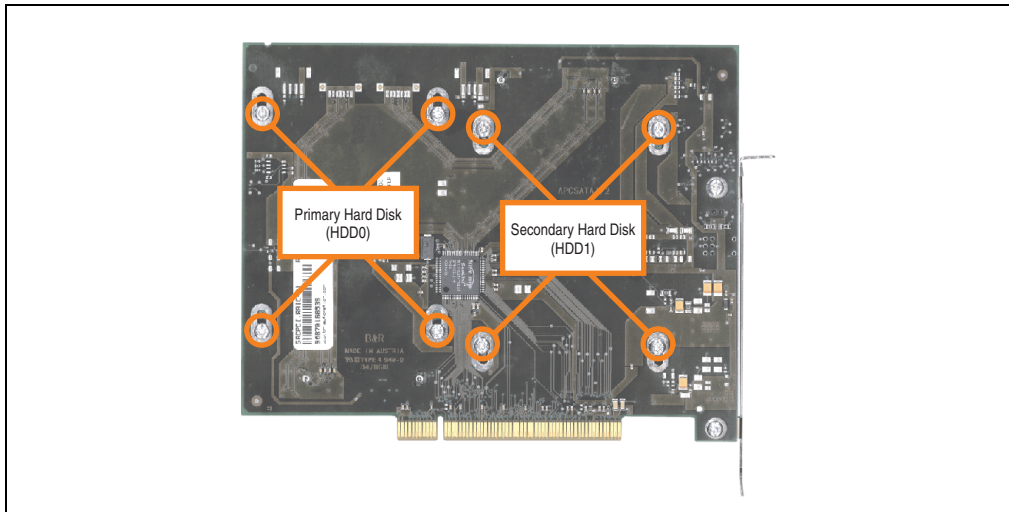

Figure 375: Screw assignment on the back side of the SATA RAID controller
- Loosen the 4 appropriate mounting screws (M3x5) - see Figure 375 "Screw assignment on the back side of the SATA RAID controller", on page 670.